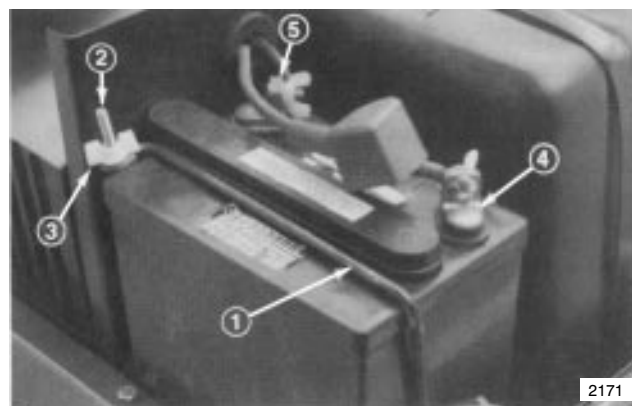

Figure 6
1. Mount battery on battery support with terminal posts toward gas tank (Fig. 6).
2. Secure battery with clamp, support rod and wing nut (Fig. 6).
3. Slide the red terminal boot onto the red battery cable (Fig. 6).
4. Install the positive battery cable to positive (+) battery terminal and the negative battery cable to the negative (–) battery terminal and secure with carriage bolts and lock nuts (Fig. 6).